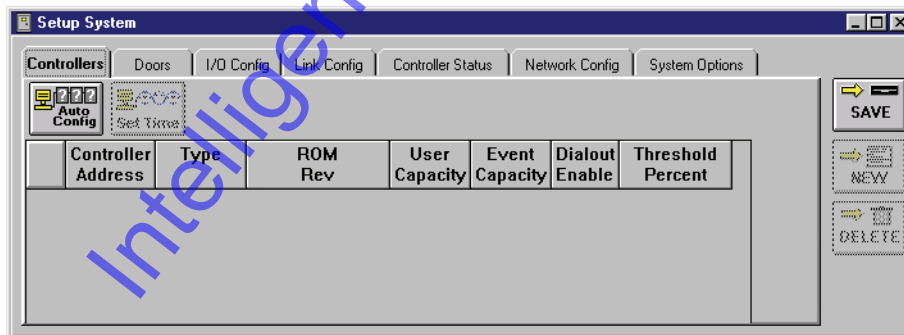

Figure 2-2: Setup System Window
3. Click on the  button. The Setup System window appears (see Figure 2-2).